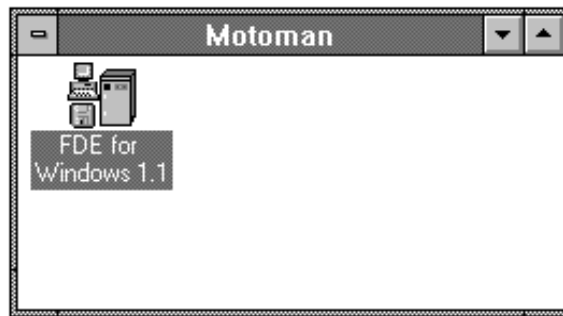

Figure 3-4 The FDE for Windows Icon
14. Double click on the FDE for Windows icon. See Figure 3-4.